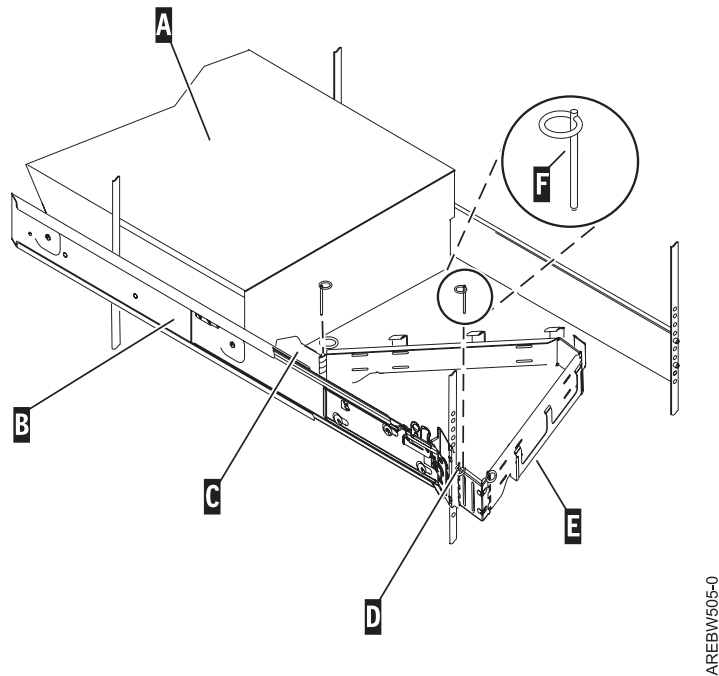

Figure 31. Attaching the cable-management arm.
3. Use pin F to pin the cable-management arm E to the rack frame D as shown in Figure 31 on page 37.
4. Use the second pin **F** to pin the other end of the cable-management arm to the flange **C** that is attached to the sliding portion of the left system rail assembly **B** as shown in Figure 31.